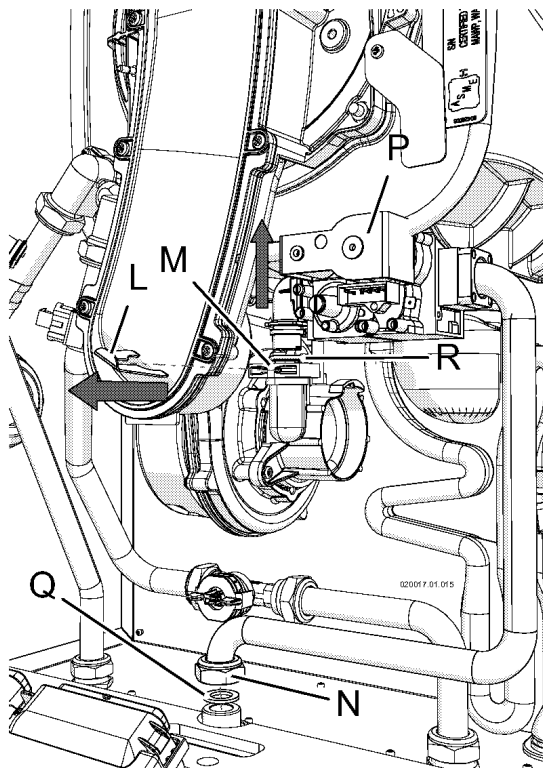

Figure 11-4 Lift the gas valve
- 6 - unscrew nut "N" as per Figure 11-4;
- 7 - pull and remove spring "L" (see figure 11-4);
- 8 - pull up and remove the gas valve "P" as per Figure 11-4 (take care attention to o-ring "G" of Figure 11-5);
- 10 - reinstall the gas valve, taking care attention to the o-ring "G" of Figure 11-5 and to the gasket "Q" of Figure 11-4;
- 11 - Insert against the spring "L" of Figure 11-4;
- 12 - tight nut "N" of Figure 11-4;
- 14 - check for any gas leaks on nut "N" of Figure 11-4;